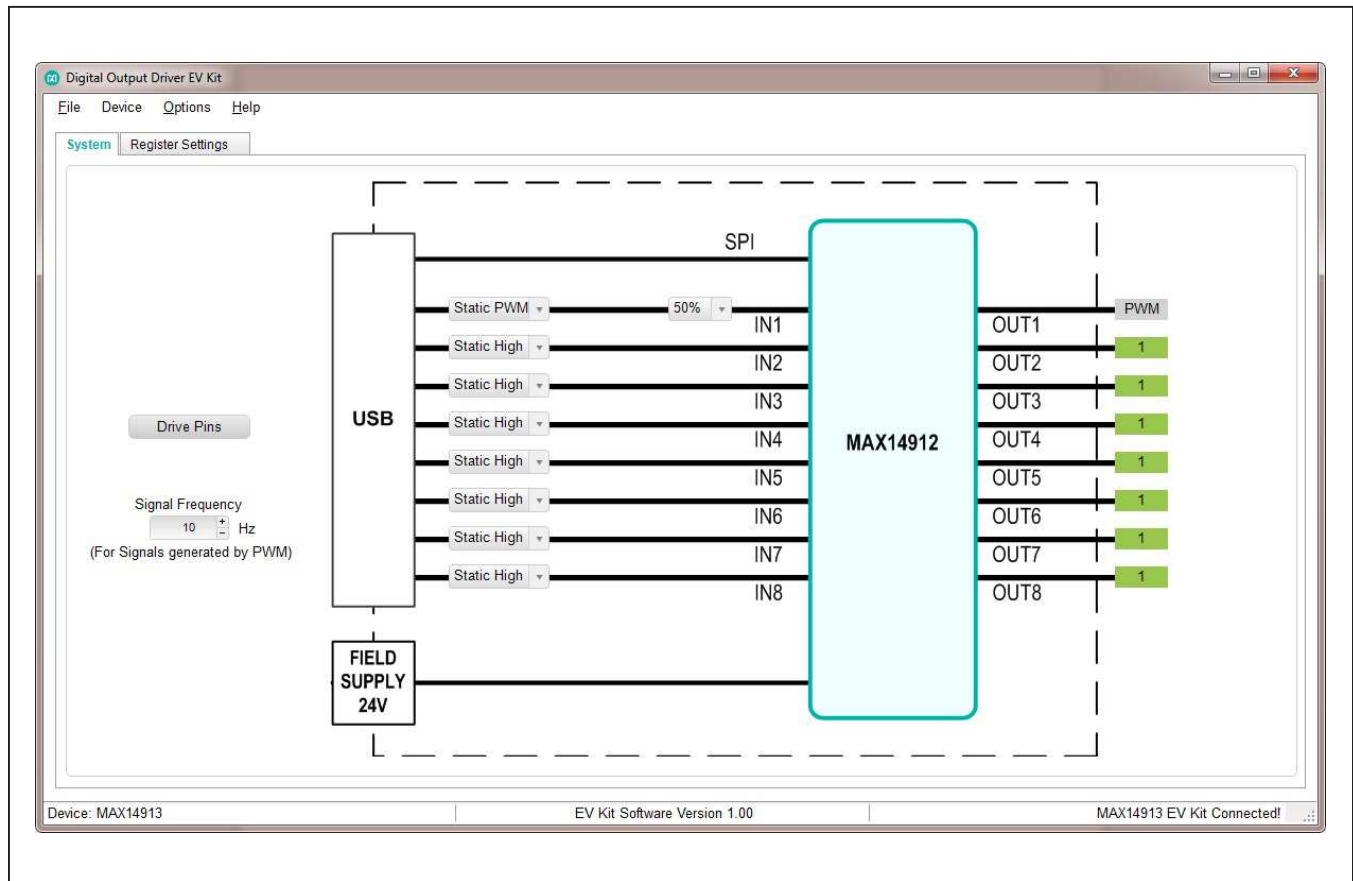

Figure 2. System Tab. Static PWM Configuration
- 11) Change the input signal to **Static PWM**. Select the duty cycle from the pulldown menu, refer to Figure 2, and observe the output on corresponding OUT_ test point by oscilloscope.
In static PWM and PWM mode, the GUI generates a 1kHz (if SRIAL pin is high) or 20kHz (if SRIAL pin is low) square wave. The level of modulation is selectable from the pulldown menu from 0% to 100%. Refer to Figure 2.